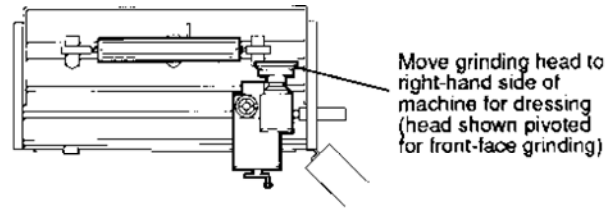

FIG. 43
1. Traverse the grinding head to the right end of the carriage (beyond the end of the bedknife). See FIG. 43.